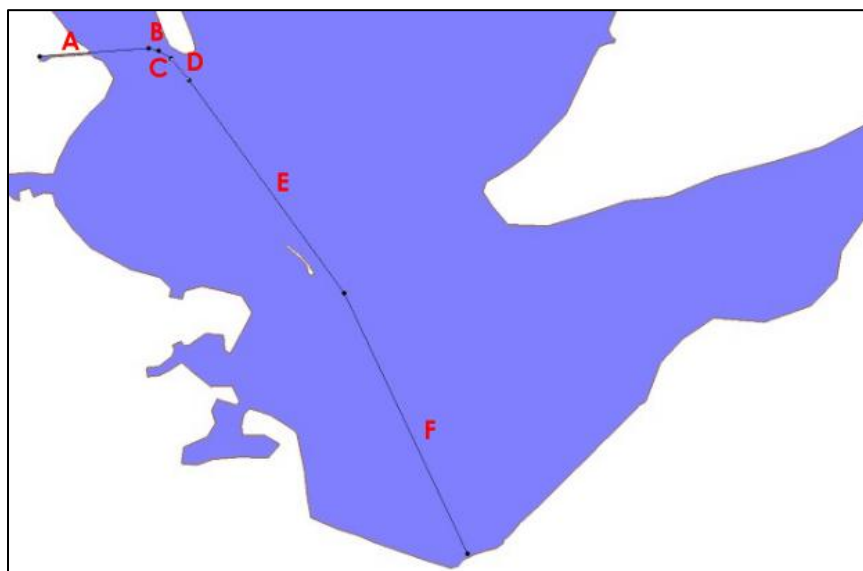

Figure 3 Second boat path with labeled arcs
10. Using the **Create Feature Arc**  tool, create six arcs as shown in Figure 3.
11. Right-click the top leftmost arc (labeled A in Figure 3) and select **Assign arc attributes...** to open the *Arc Properties* dialog.